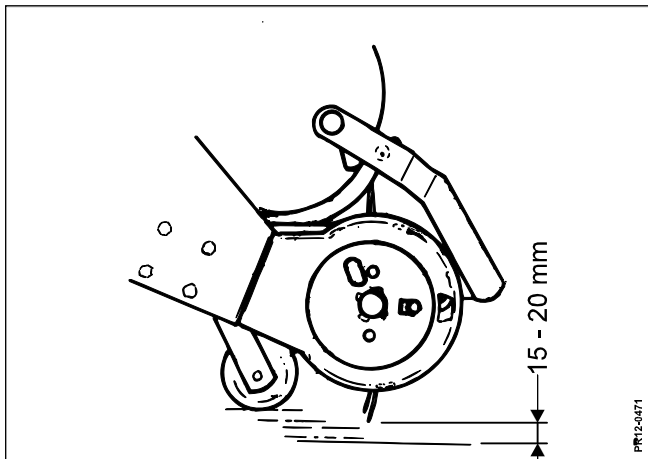

Fig. 6-6
**Fig. 6-6** The pick-up is fitted with support rollers of steel which are adjustable in height. From the factory the wheels have been adjusted so that there is 15-20 mm space between the tines and an even and firm ground. Check regularly that the pick-up tines do not reach further down than necessary to be able to pick up the swath efficiently. If the tines hit the ground too hard they are quickly worn and the drive of the pick-up may be overloaded.